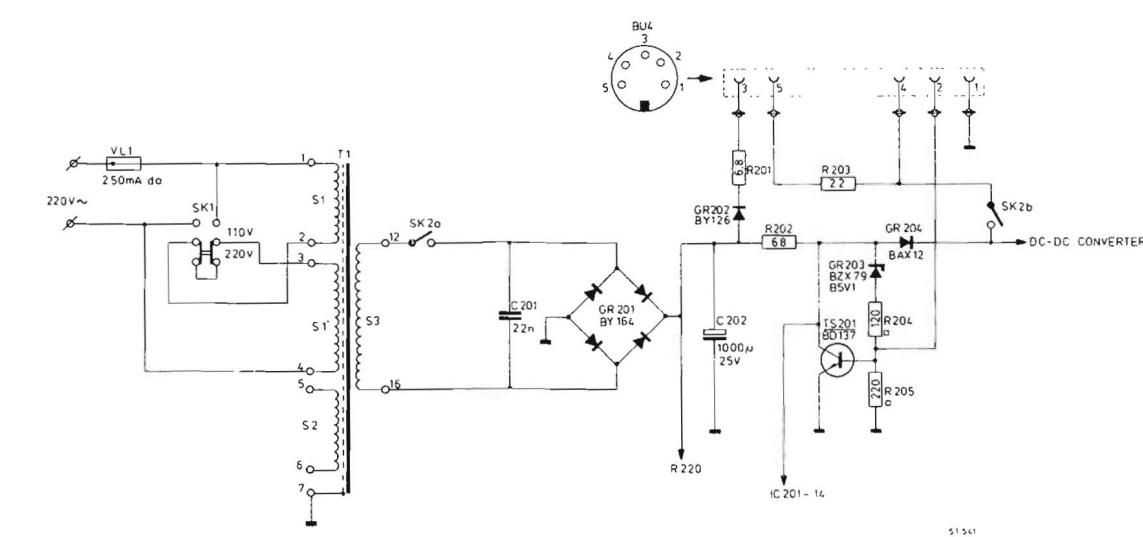

Fig. 12. Mains section
**VII-2. SUPPLY SECTION.**Mains section, Fig. 12.